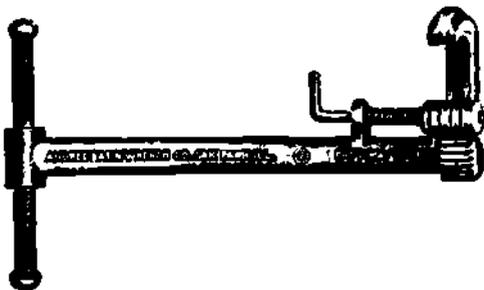

Figure 1-137. Basin Wrench
b) The handy basin wrench shown in Figure 1-137 fits where no other standard wrench will, such as in water-closet tanks, under basins, or in tight corners.